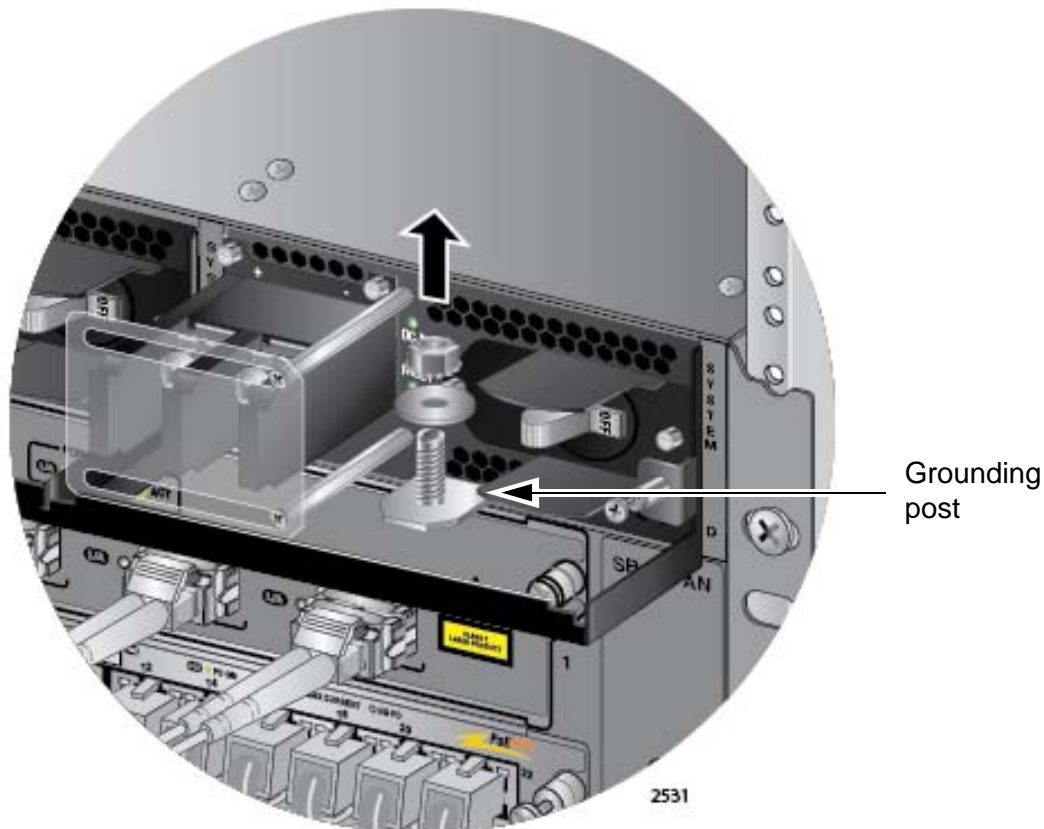

Figure 127. Removing the Nut and Washer from the Grounding Post
3. Use an 8 mm wrench to remove the grounding post nut and washer, shown in Figure 127, from the power supply.
2. Use an 8 mm wrench to remove the grounding post nut and washer, shown in Figure 127 on page 196, from the grounding post on the power supply.